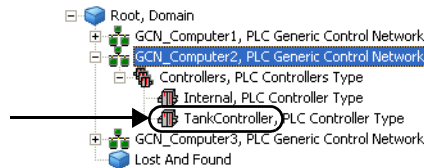

Figure 19. Created Controller Object
11. Expand the Generic Control Network object to view the created controller object, also Figure 19.